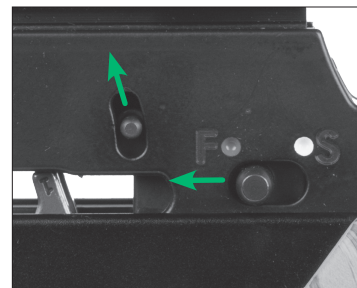

FIGURE 14
- ONLY USE THE COCKING PREPARATION SWITCH (FIG. 14 #21) DURING THE NORMAL COCKING PROCEDURE TO MOVE THE SAFETY SWITCH FROM THE "ON SAFE" POSITION TO THE "FIRE" POSITION (SEE SECTION 5- COCKING THE CROSSBOW).
- 1a Push and Hold the Cocking Preparation Switch (Part 21) forward. (Fig. 14)
- 1b While holding the Cocking Preparation Switch forward, slide the safety switch from the ON SAFE position to the FIRE position. (Fig. 14)
- 1c Release the Cocking Preparation Switch once the safety switch is in the FIRE position. (Fig. 14)
- With the crossbow pointed in a SAFE DIRECTION and hands in the proper position release the safety by pushing the safety all the way forward ("FIRE") (see section 5 Fig. 14).